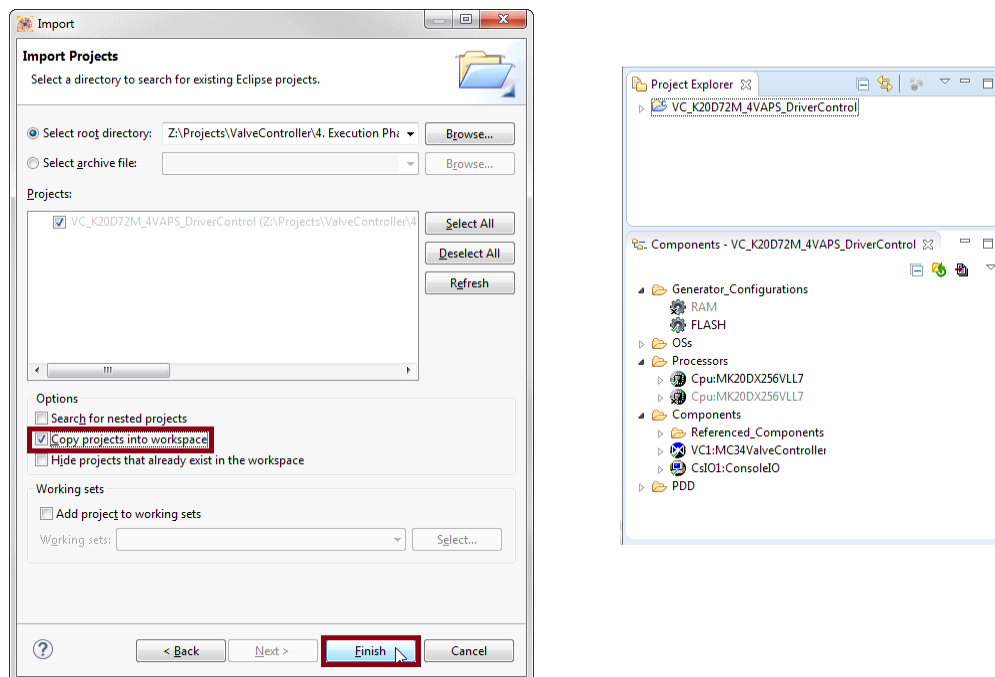

Figure 11. Importing an Example File (c)
3. With the project now loaded in the **Select root directory** box, click on the **Copy projects into workspace** check box. Then click **Finish**. Figure 11 shows the **Projects** panel and the **Components** panel after the project has been successfully imported. The project is now in the Kinetis Design Studio workspace where it can build and run.